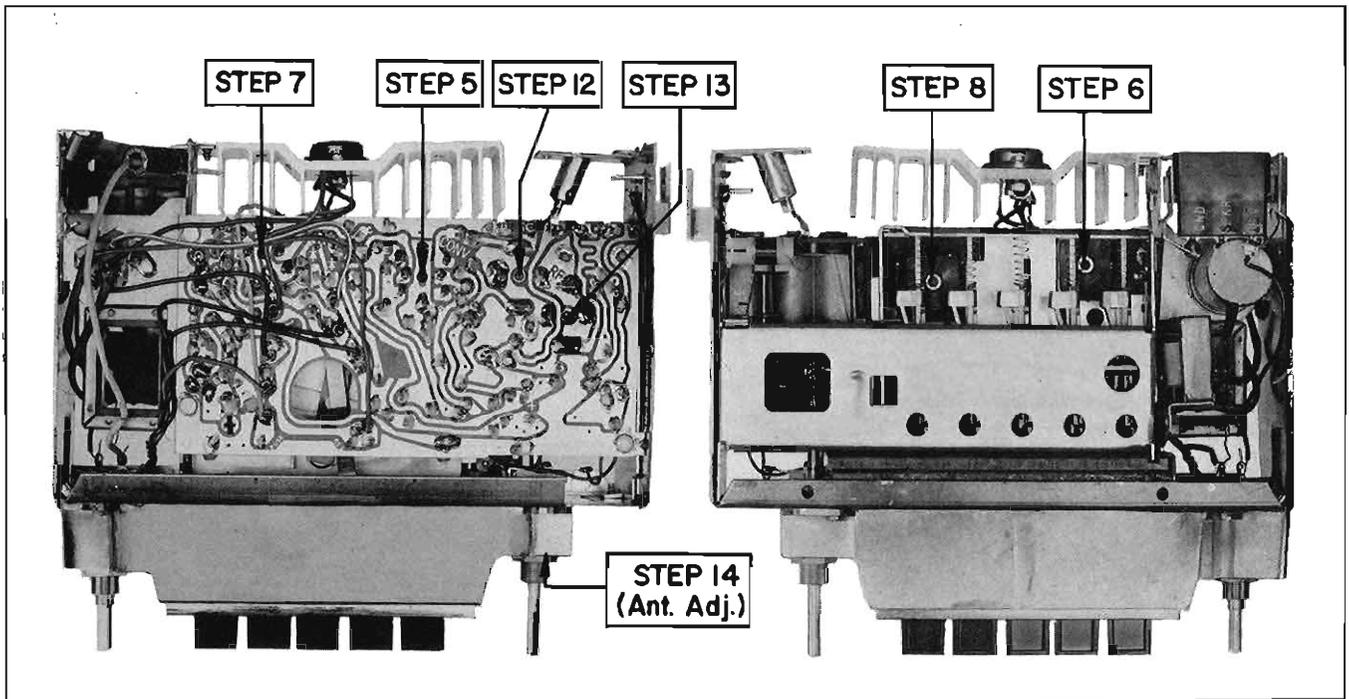

Figure 34 - ALIGNMENT PROCEDURE - ALL MANUAL RADIOS
5. Adjust secondary and primary windings Step 5-6-7-8 of IF transformers for maximum voltage reading on meter. Keep the voltage at the vacuum tube voltmeter at .5 to 1 volt. See Figure 34.